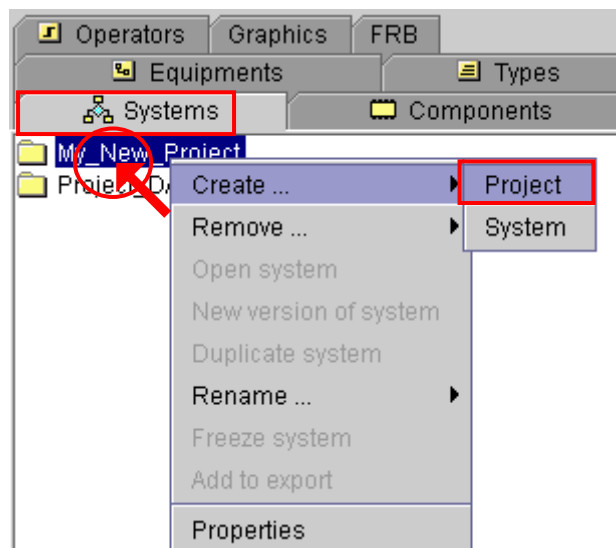

Figure 59: Create a new sub-folder
- ◆ Select the command Create... > Project (Figure 59)